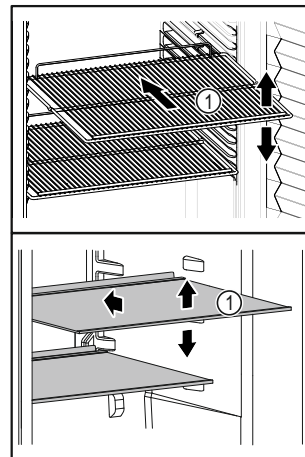

Fig. 53 Example illustration
- If storage surfaces Fig. 53 (1) are movable, adjust them according to height.